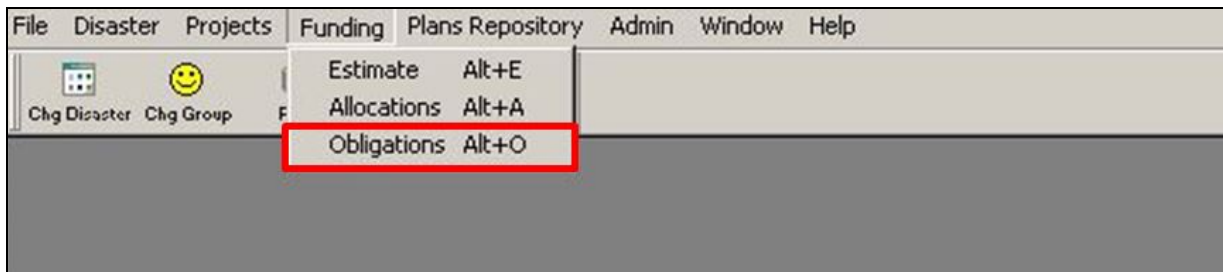

Figure 10-81: Mitigation > Funding > Obligations
1. On the MITIGATION menu, click on Funding > Obligations (Figure 10-81).